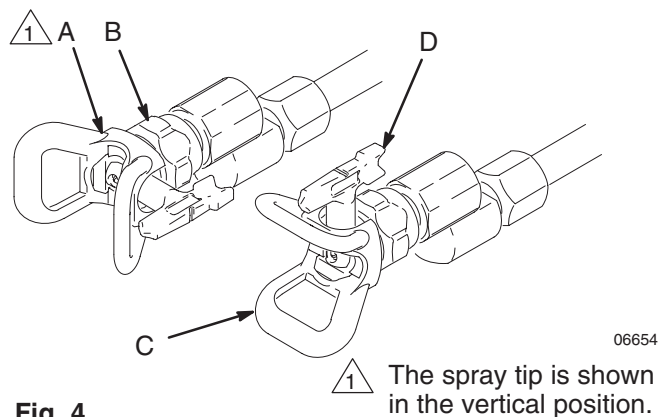

Fig. 4
2. Loosen the tip guard retaining nut (B).
3. Turn the tip guard/tip groove horizontally (C) for a horizontal pattern and vertically (A) for a vertical pattern. Tighten the tip guard retaining nut. See Fig. 4.
4. Rotate the RAC 5 tip handle (D)180°. See Fig. 4.